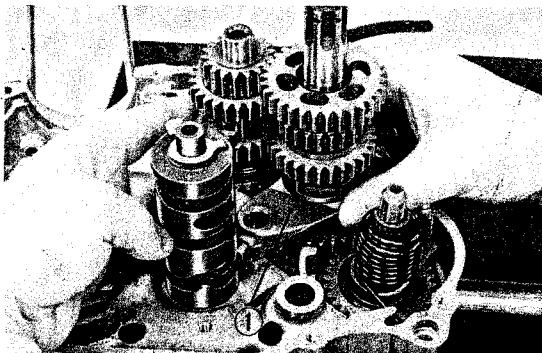

Fig. 94 ① R. shift fork
- 5) Assemble the right shift fork into the counter shaft top gear, raise the gear and then assemble guide pin into guide groove on the drum. (Fig. 94)